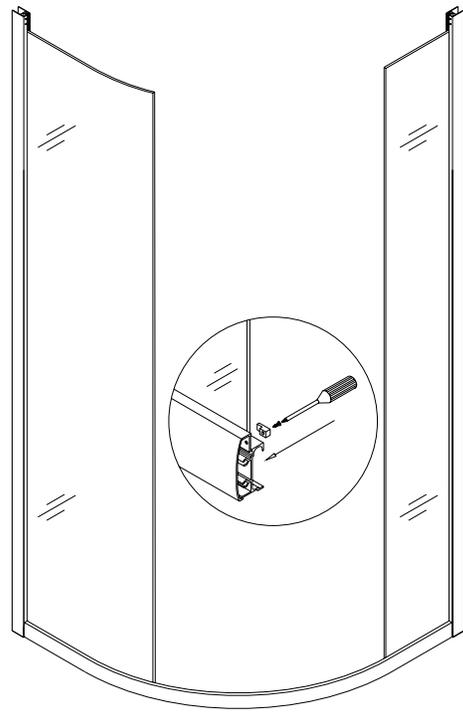

Fig 2
2. Push the **Stationary glass 1 (04)** into the Glass profile groove, and then fasten it by the **Glass holder (16)** to the Guide rail with **Screw ST4.2x15 (13)**. See fig. 2 for details.